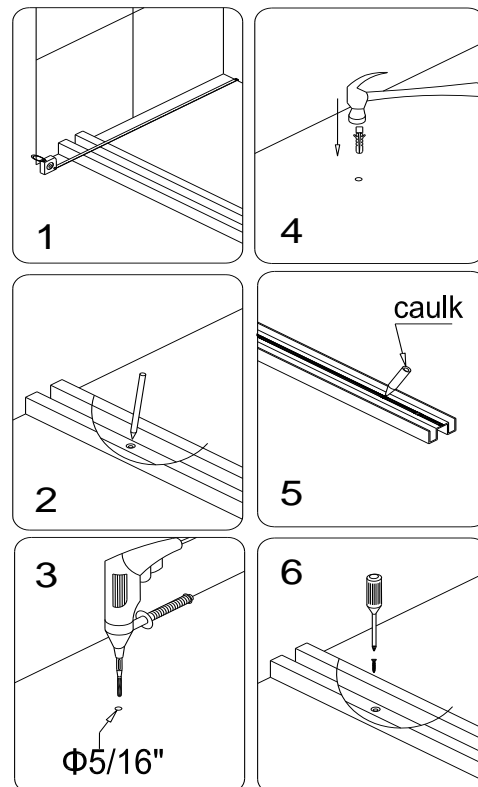

Fig. 4
4. Place the **Threshold (15)** into the desired position and mark the holes for drilling on the floor. Remove the rail, drill the holes in the floor and insert **Small anchors 5/16 (18)**. Apply silicone on the bottom of the **Threshold**, place it back into the chosen position and attach it to the floor with **Countersunk screws ST4.2x30 (16)**. See fig. 4 for details.